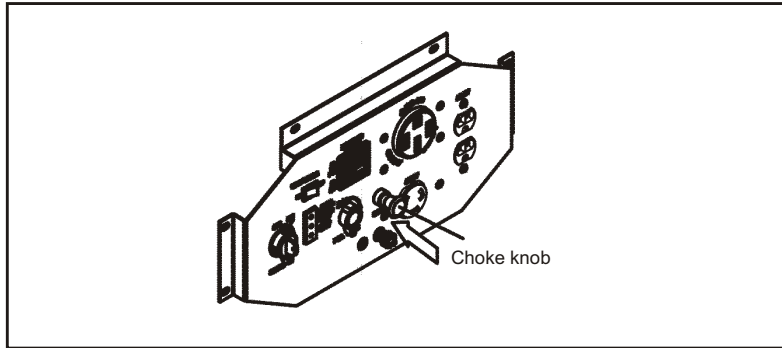

Fig.11 Choke knob opening view
4.5 Push the choke knob to the OPEN position as the engine warms up, see Fig.11.